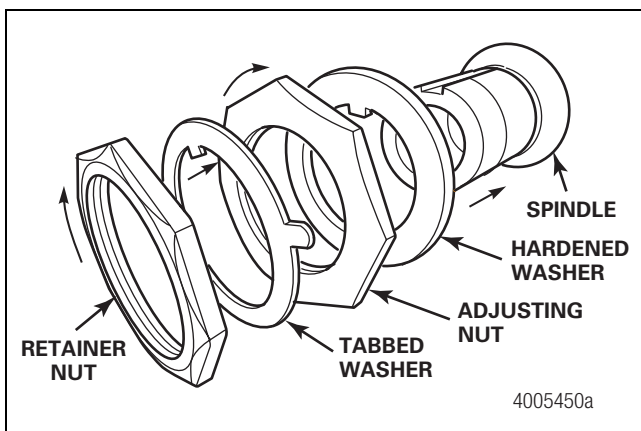

Figure 13.34
1. Install the hardened washer against the outer bearing. Figure 13.34.